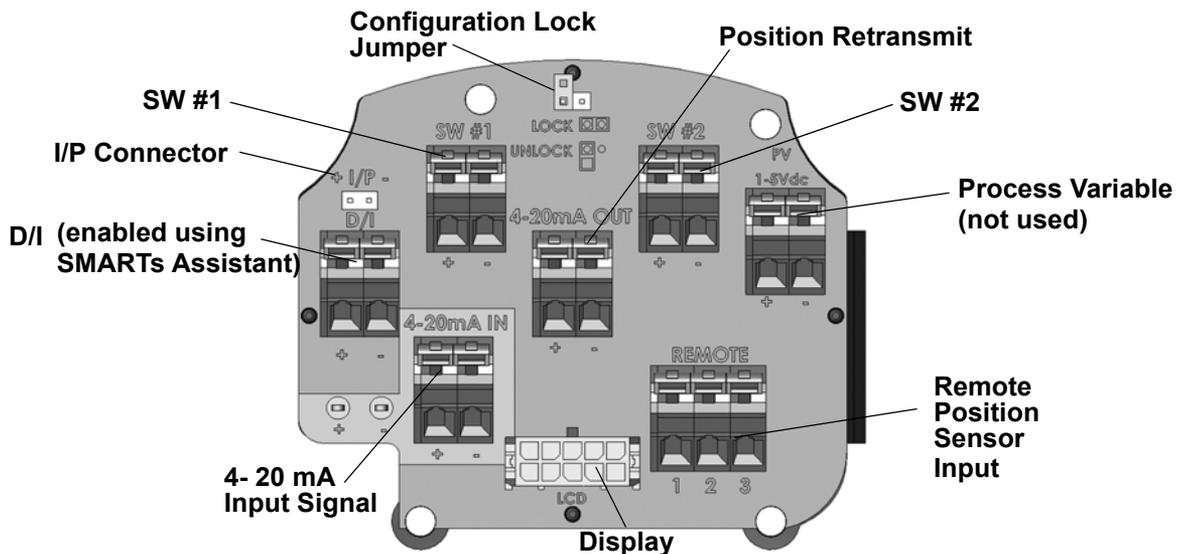

Figure 31 Connections to Electronics Module (via Terminal Board)
2. Connect the +/- terminals from the 4-20 mA Out to the position retransmit input signal: + to + and - to -. See Figure 31 on page 64.
2. Locate the correct terminal block on the terminal board (see Figure 31 on page 64).
1. Loosen the four (4) cover screws and remove the SVI II AP cover.
2. Connect the +/- terminals from the SVI II AP to the current source. Connect + to + and - to - (Figure 31 on page 64).
Additional security is achieved using the hardware configuration-lock jumper shown in Figure 31 on page 64. When set to the secure position, by shorting the two-pin header, configuration and calibration are not possible using the local interface or any HART[®] communication tool. Pushbuttons, ValVue and handhelds are locked out, except to examine configuration, calibration, and position. This is similar to Security Level 1 shown in the Pushbutton Lock Security Level table.